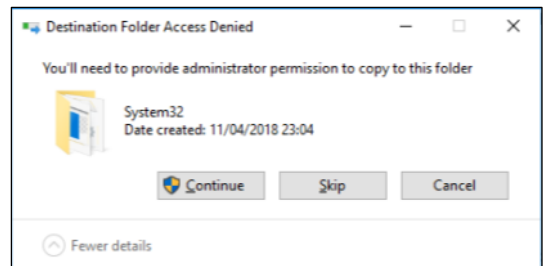

Fig. 2.2
- Administrator permission may be requested to replace the file, and be accepted by clicking **Continue** (Fig. 2.2).